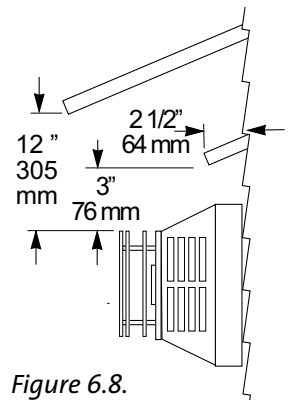

Figure 6.8. Termination Clearance to overhangs.
- The horizontal termination cap must maintain a 3" clearance to any overhead combustible projections 2 1/2" or less. It must also maintain 12" clearance from projections exceeding 2 1/2". See fig. 6.8.